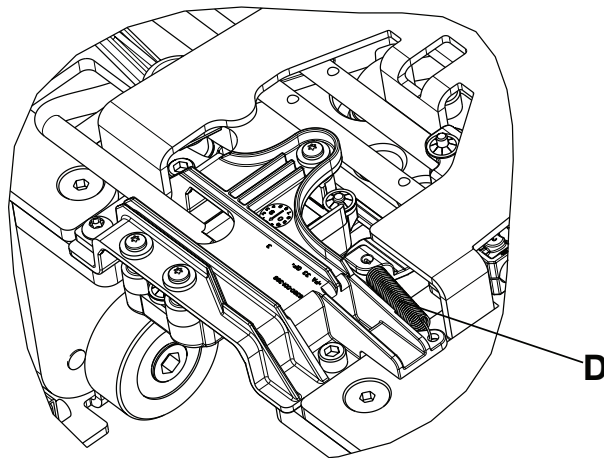

Figure 22 – Return spring location
5. Remove the return spring (D) (Figure 22). Save for reinstallation.